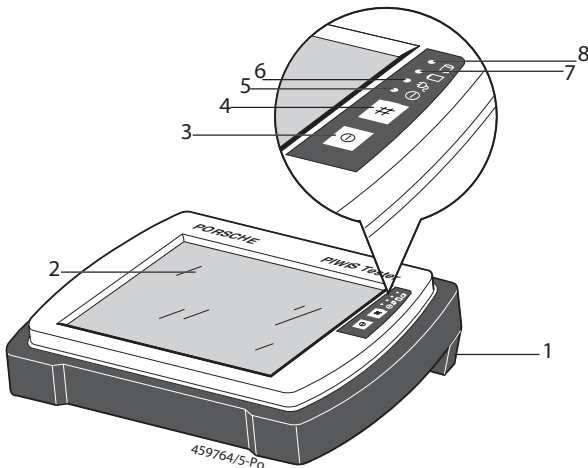

Figure 3: PIWIS Tester operating and display unit
If the PIWIS Tester is only operated with the battery, the charging state LED of the tester lights up (Figure 3; item 7).
The charging of the battery in the PIWIS Tester is controlled automatically. Whenever the PIWIS Tester is connected to the power pack or to the vehicle battery (via the diagnostic cable/ adapter lead connected to the diagnostic socket in the vehicle), the battery is being charged. As long as the battery capacity is less than 80%, the charging state LED flashes when the PIWIS Tester is switched off while the battery is being charged (Figure 3, item 7), and when the PIWIS Tester is switched on, the LED for the external supply flashes (Figure 3, item 8). The charging process ends on reaching the maximum capacity.
Switch on the PIWIS Tester using the  button (Figure 3, item 3). After Windows XP starts up, the PIWIS software is started. Now you have to select the Porsche operating number and enter the operating data which release the PIWIS Tester. These settings are stored **permanently**.
-  If the PIWIS Tester can no longer be operated due to a computer error, simultaneously pressing the  (on/off) button (Figure 3, item 3) and the # (virtual keyboard) button (Figure 3, item 4) for at least 3 seconds will switch off the PIWIS Tester.
The PIWIS Tester provides you with a virtual keyboard. When you press the # key (see figure 3; item 4) the virtual keyboard is opened.